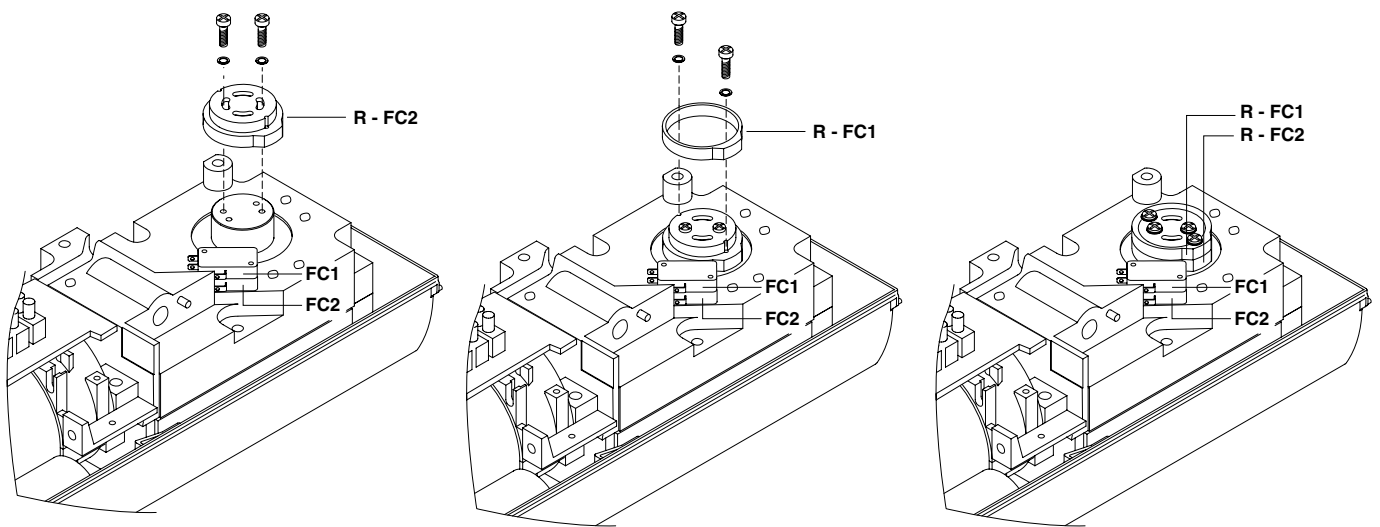

Fig. 13
**In the left-hand operator (fig. 13):**